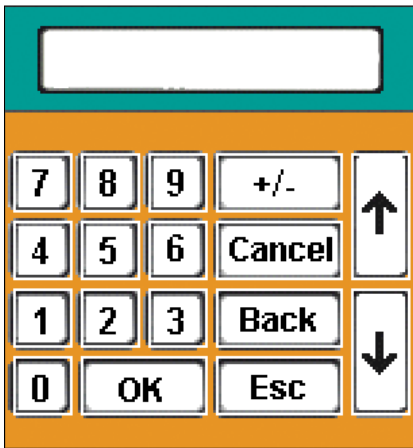

Figure 4-4: Keypad allowing for numerical data entry
- A standard pop-up window will appear allowing for numerical data entry. (Figure 4-4)